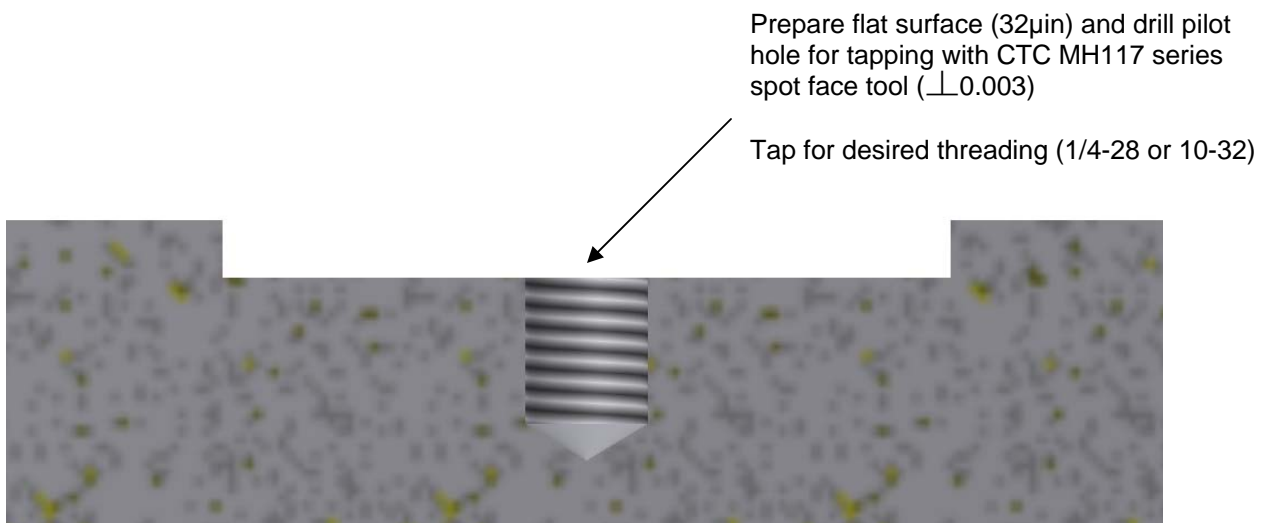

Figure 3. MH107-1B or Stud Mounting Accelerometer directly to machine surface
- The motor fin mount probe/pad should not be resting on the top of the fins – if it does, then the bottom of the probe may not be in direct contact with the motor casing. (*Figure 3*)